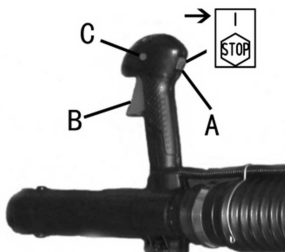

Fig.9
1. Make sure ignition switch(A) is in the ON (I) position.(Fig.9)